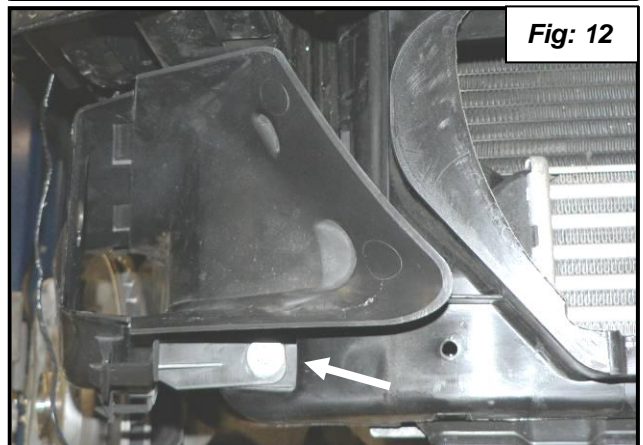

Fig: 12
17. Remove the right brake duct by removing the mounting screw. See **figure 12**.